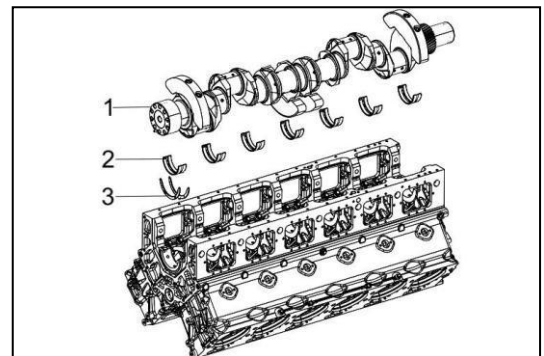

Figure 113
6. Remove the crankshaft (Figure 113, 1) from the engine.
7. Remove the bearing inserts (Figure 113, 2) and thrust plates (Figure 113, 3).